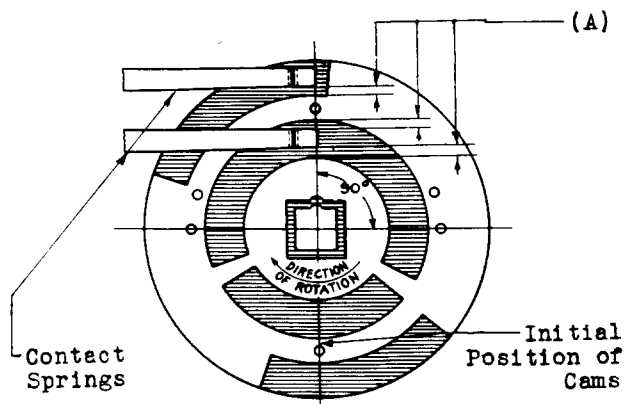

Fig. 5
2.09 Clearance Between Contact Spring Edges and Adjacent Edges of Notched Out Portions of Cams: Figs. 5(A) and 6(A) — There shall be a clearance in a radial direction between the edges of the contact springs and the adjacent edges of the notched out portions of the cams of: